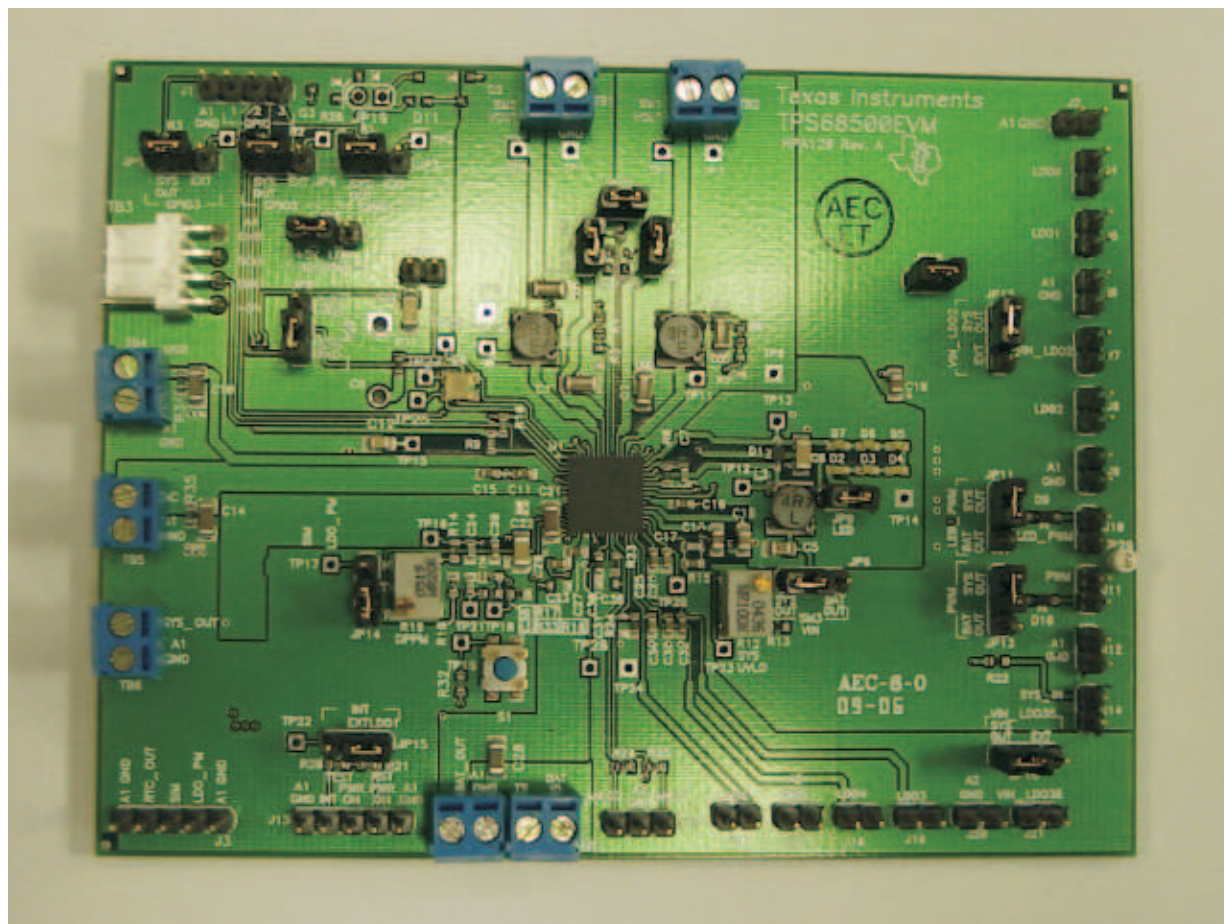

Figure 1. TPS65810EVM Assembly (Similar to Other Versions)
- Verify that the jumpers are in the correct location. JP5/4/3/8/15/12/11/13/6/16 are to be set to SYS-OUT, JP7 to +5V, JP14 to RES, JP15 to LDO1, and JP12/17/18/9; apply jumper across the two pins. See Figure 1.